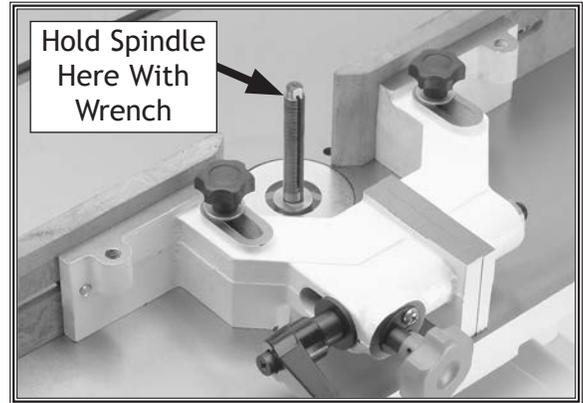

Figure 13. Location for wrench on spindle.
15. Place 8mm open-end wrench on top of spindle (see Figure 13).